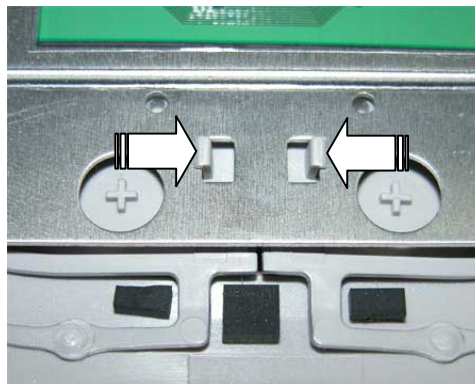

Fig. 35 Touch Pad Holder
2. Press on Touch Pad Button hock to release Touch Pad Holder as shown in Fig. 35